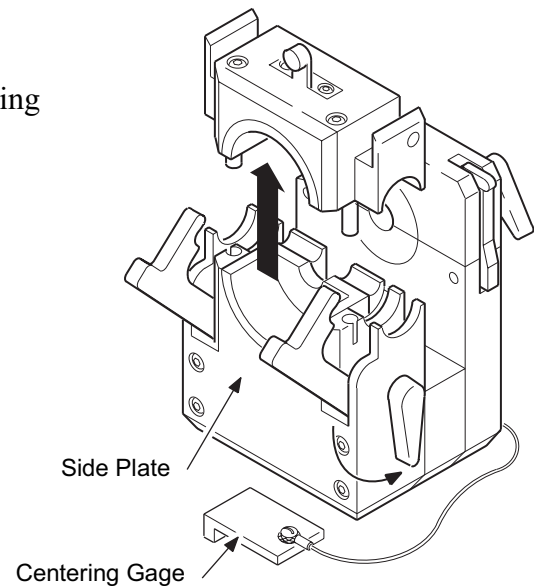

Figure 19 Removing the Top of the Side Plate
5. Unlatch and remove the top of the CWS-5FSP2 Side Plate. See Figure 19.